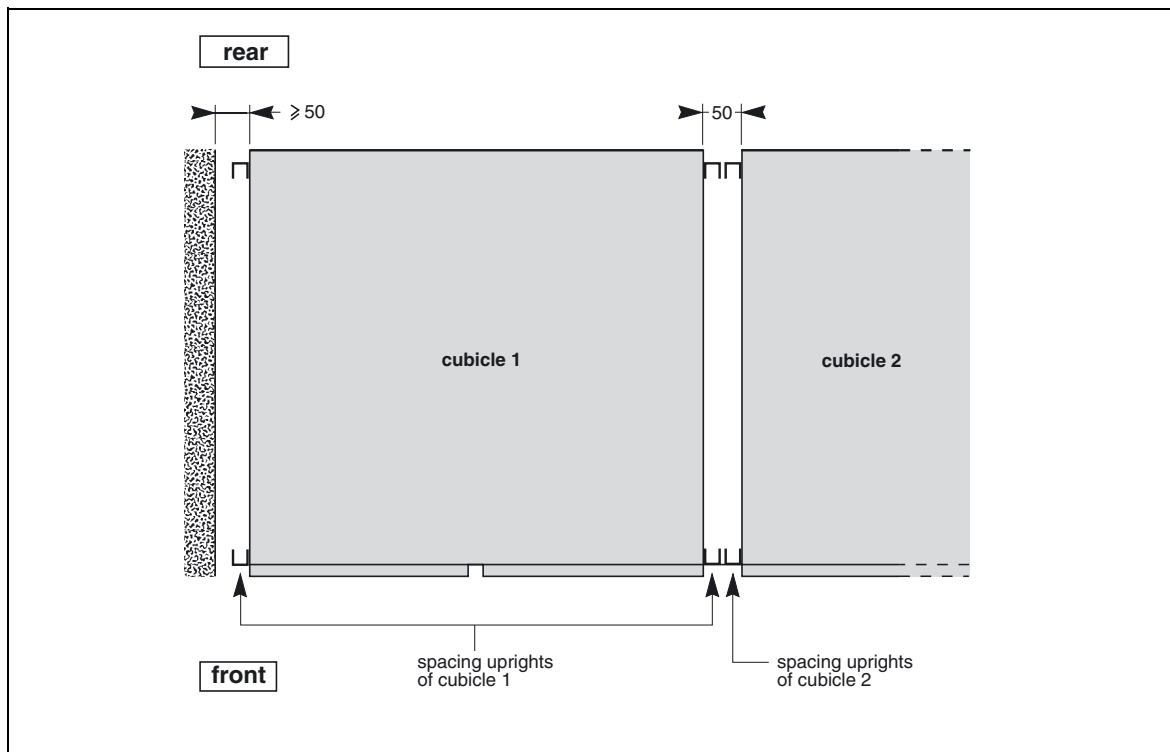

Fig. 4
- spacing uprights on the sides of the cubicles create a 50 mm clearance when cubicles are positioned next to each other, enabling users to open the doors (see figure 4). If a cubicle is installed next to a wall, leave additional space so that the cubicle is 50 mm from the wall;